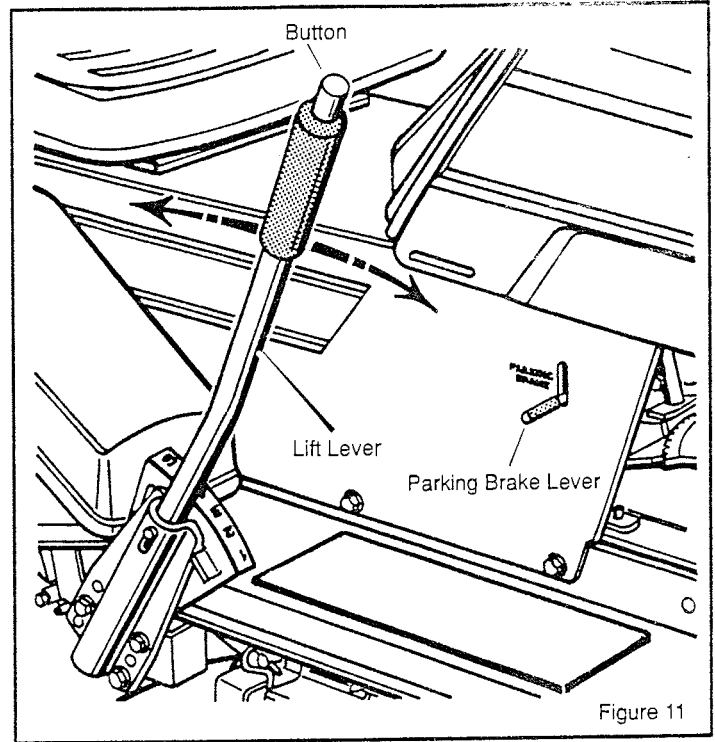

Figure 11
2. Lift the **parking brake lever** (Figure 11).
1. To release the **lift lever**, push the **button** on top of the **lift lever** (Figure 11).